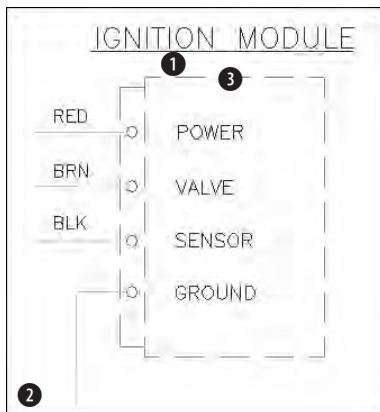

Figure 13-21: A section of an electrical schematic
2. Save the file as **ab13-06.dwg** in your AutoCAD Bible folder. This is a small section of an electrical schematic, as shown in Figure 13-21. Make sure ORTHO and OSNAP are on and set running snaps for endpoint, midpoint, and intersection.
Select objects: *Start a window by picking ② in Figure 13-21.*